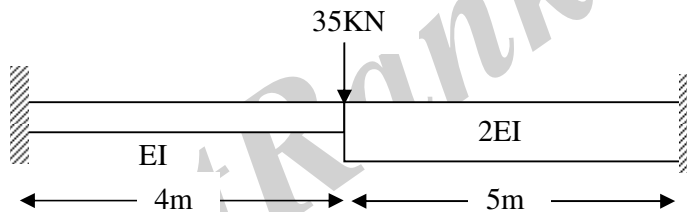

Figure 2
2. Find fixed end moments for the fixed beam shown in Figure 2